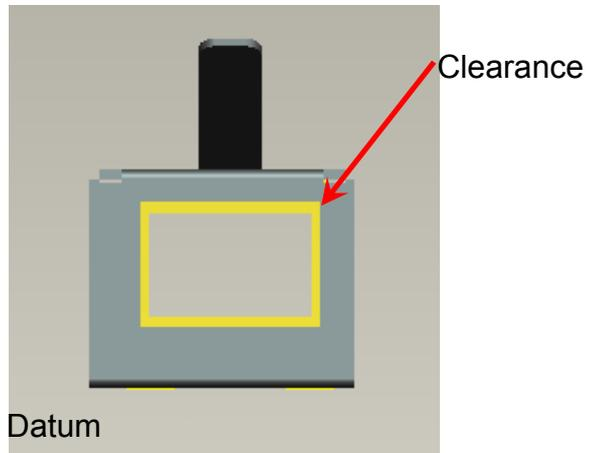

Fig. 4-2
4.2 Referring to Fig. 4-2, it must be visible clearance between “BKT_LP” and ”LP Opening” after assembling.